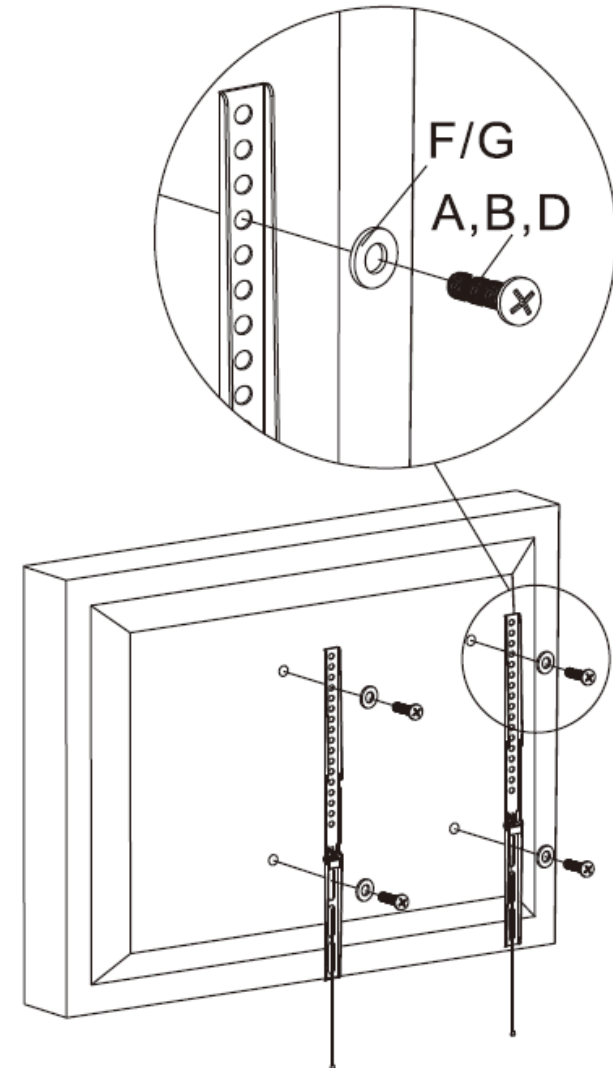

Fig 1a
**A.** Some displays have vertical backs. No spacer is required. Install the bracket directly to the back of display by using bolts and washer provided. As shown in Fig 1a.